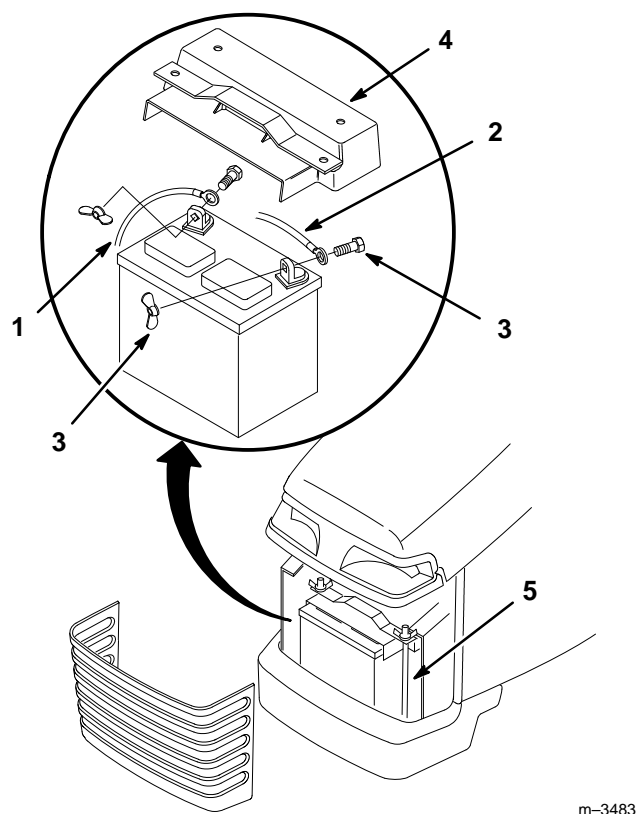

Figure 51
3. Remove the battery shield (Fig. 51).
4. Disconnect the negative (black) ground cable from the battery post (Fig. 51).
5. Disconnect the positive (red) cable from the battery post (Fig. 51).
1. Place the battery onto the chassis (Fig. 51).
3. Using the bolt and wing nut, connect the positive (red) cable to the positive (+) battery post (Fig. 51).
4. Using the bolt and wing nut, connect the negative (black) cable to the negative (–) battery post (Fig. 51).